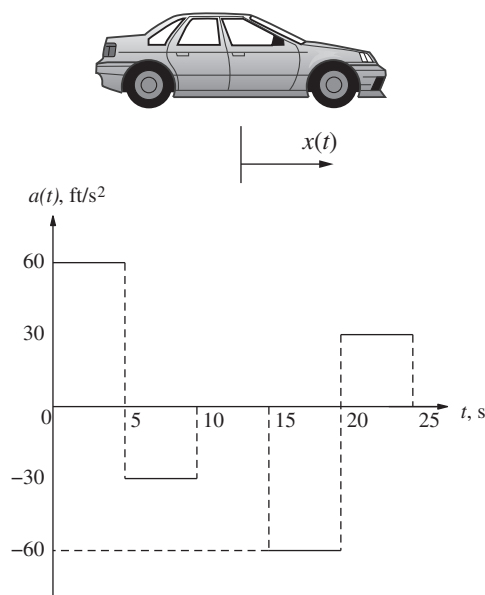

Figure P9.23 Vehicle subjected to a given acceleration for problem 9-23.
- 9-23.** A vehicle starting from rest at a position $x(0) = 0$ is subjected to the acceleration given in Fig. P9.23.